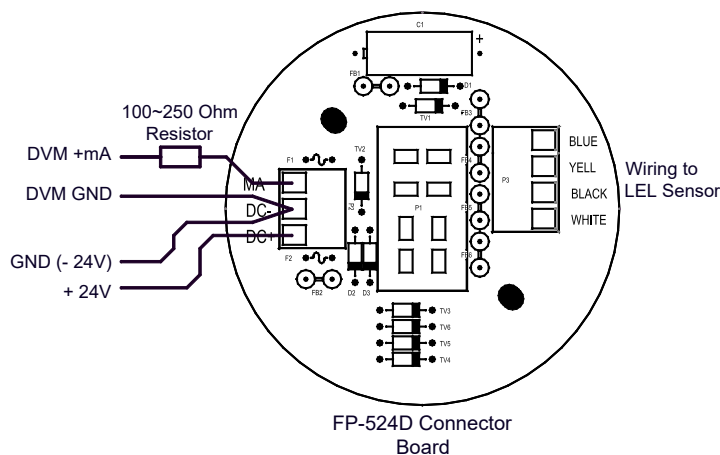

Figure 17 DVM Connection
- 2) The procedure will prompt to connect a meter: (Refer to Figure 17.)
- 1) Ensure that the DVM is connected as prescribed in Figure 17:
- d) Connect the negative lead (-) of the DVM to the 'DC-' terminal of the connectorboard. (Figure 17)